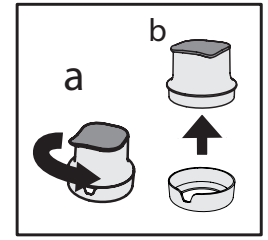
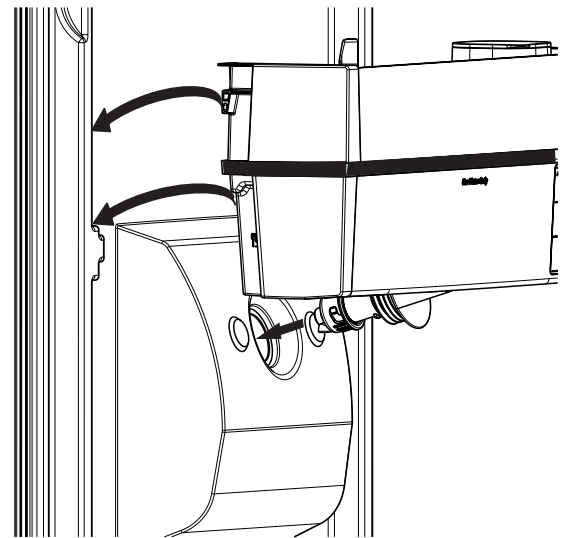

Fig 5
Fig 16
- Remove the funnel from the filter housing rotating it anticlockwise (Fig 5. a - b).
Then mount the bottle balcony on the water tank and assembly them on the door as suggested in Fig 16. Once assembled, mount the filter with the carbon cartridge (as described in Fig 5, 6, 7, 8).